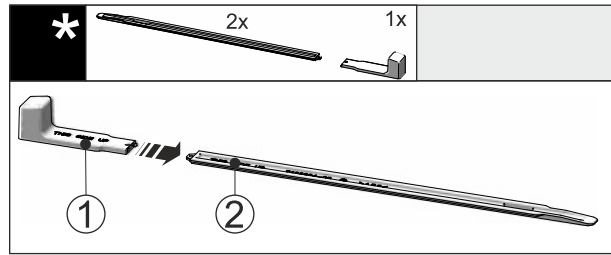

Fig. 50
- Insert the mounting handle Fig. 50 (1) into the leveling rail Fig. 50 (2).